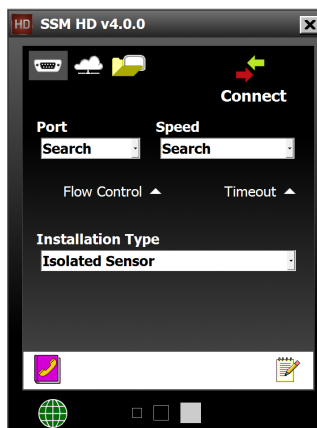

Figure 4.2 – Serial Connection
- 1 Click on the **Serial** icon  (see Figure 4.2).